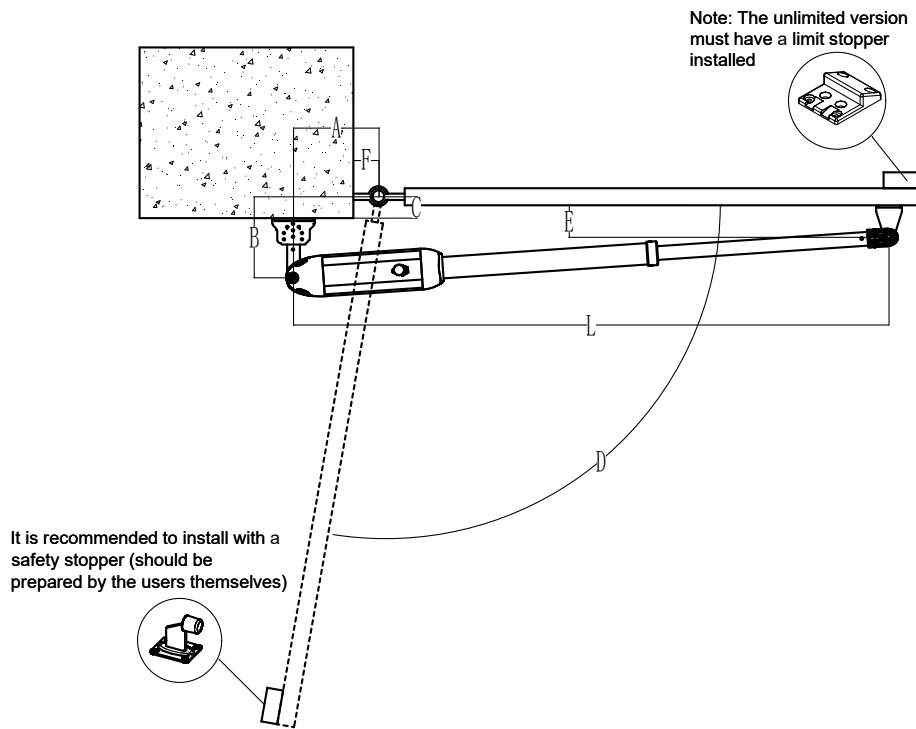

Figure 8
- **To ensure safety, please install the limit stopper at the close limit position when the door opens inward (as shown in figure 8).**